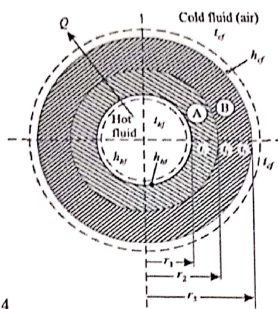

Fig. 4
- (a) Derive the equation for quantity of heat transferred for heat conduction through a composite cylindrical wall with convective heat transfer as shown in Fig. 4.